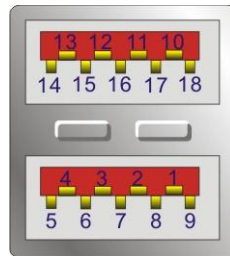

Figure 3-33: External USB 3.2 Gen 2 Connectors Location
- CN Location:** See **Figure 3-33**